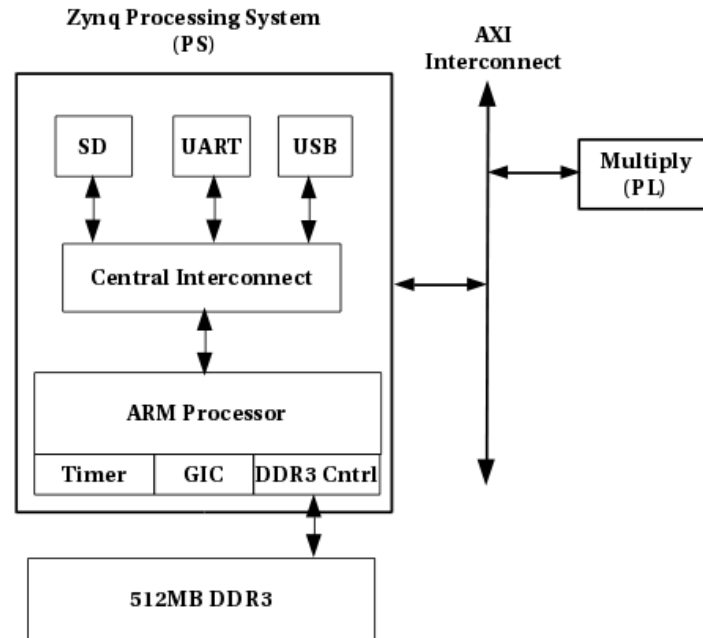

Figure 1: Zynq System Diagram
The microprocessor system you will build in this lab is depicted in Figure 1. As in last lab, this system has a Zynq processor, an UART Peripheral, and a custom multiplication peripheral. Unlike last lab, however, this system has an SD Card, a timer and a DDR3 (Double Data Rate v3 Synchronous Dynamic Random Access Memory) controller. Additionally, the PS itself has a Memory Management Unit (MMU) and instruction and data cache. These additional peripherals along with the MMU within the PS are required to run Linux. The SD card controller provides SD card read/write access. The DDR3 SDRAM controller provides the system with 1GB of RAM where the Linux kernel can reside. The interrupt controller enables interrupt handling necessary for interaction with I/O. The MMU within the PS enables virtual memory, which is required to run a mainstream Linux kernel. The PS(ARM Cortex A9) cache is added to improve performance, as DDR SDRAM accesses have high latency. Interrupts to the processor are addressed by Generic Interrupt Controller(GIC). The timer is necessary for certain OS system calls.
1. To begin, we must create a base PS system which includes all the peripherals shown in Figure 1 .
- (a) Compared to lab 3, the lab 4 microprocessor system shown in Figure 1 has 512 MB of SDRAM. However, our system still includes a small amount of local memory. What is the function of the local memory? Does this 'local memory' exist on a standard motherboard? If so, where?